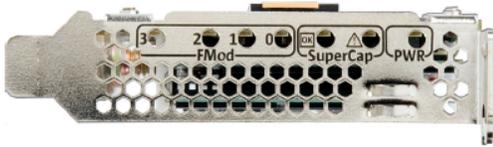

Figure 4. Status indicator LEDs
- **Indicator LEDs.** Easily visible LEDs enable problems to be readily identified. The Sun Flash Accelerator F20 PCIe Card includes seven user-visible status indicators on the card bracket (see Figure 4):